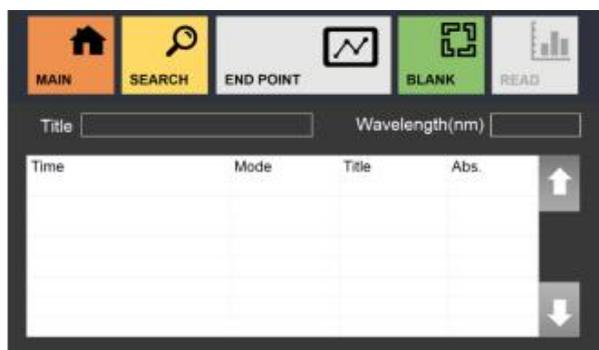
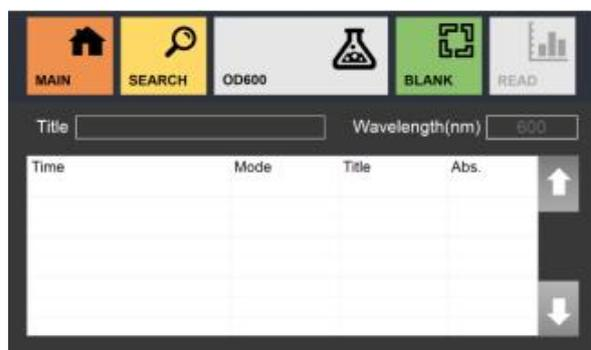

Fig. 3-14
Fig. 3-15
1. Open END Point or OD600 measurement interface (Fig. 3-14 or Fig. 3-15).